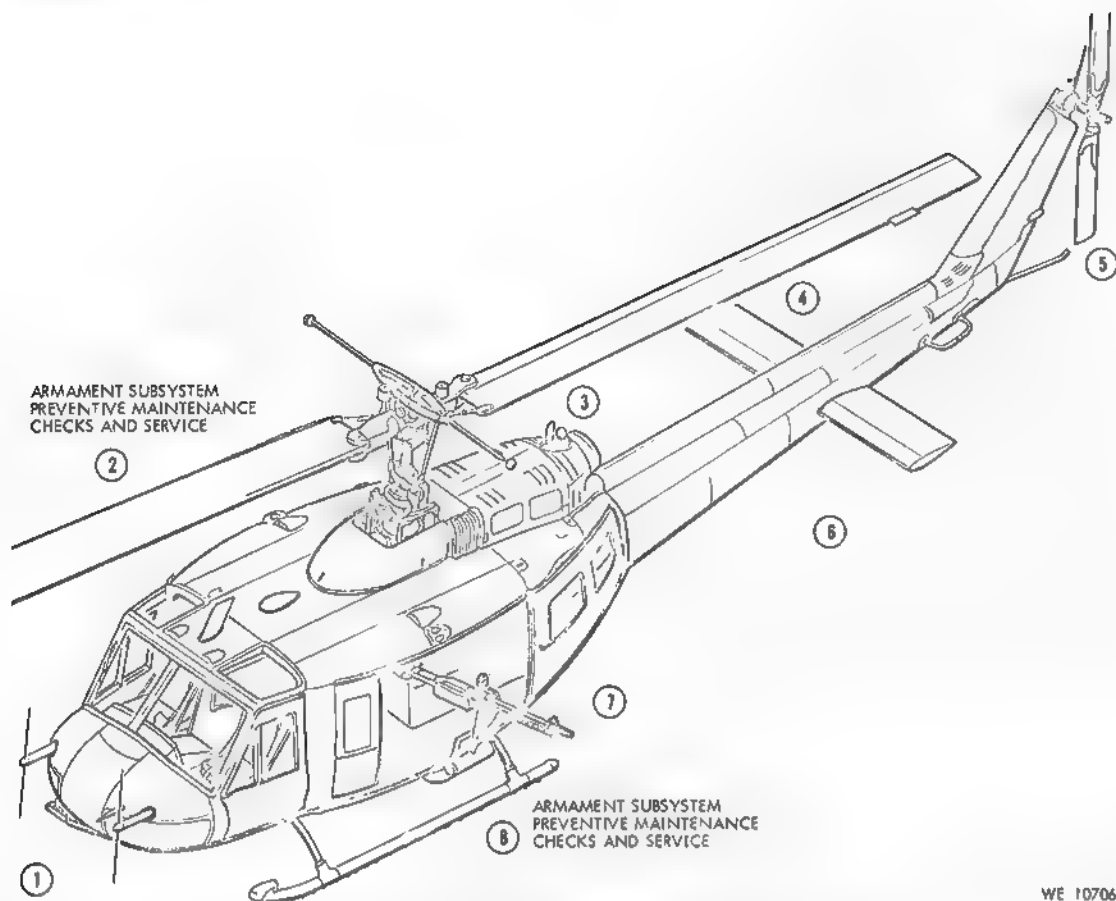
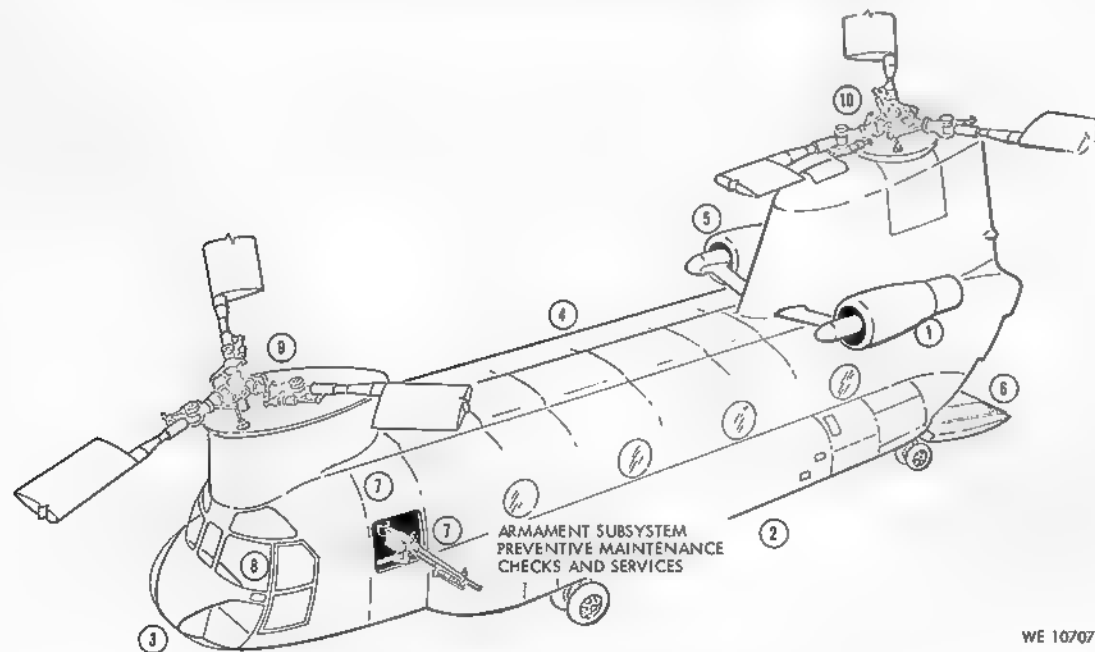

Figure 3-2. Exterior inspection diagram UH-1D helicopters.
Figure 3-3. Exterior inspection diagram CH-47A helicopters.
c. Location of Inspection Areas. In both tables, checks and services to be performed will be made in areas 2 and 8 shown on figure 3-2 and in area 7 shown on figure 3-3.